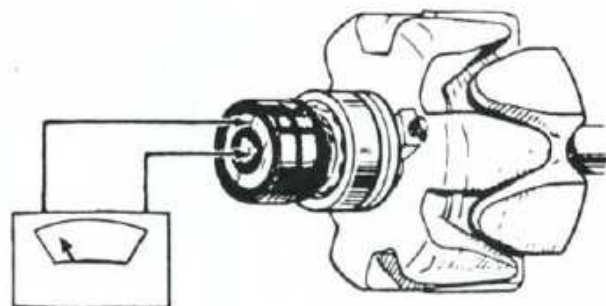
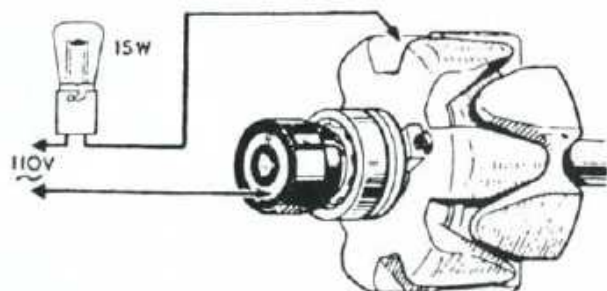

Fig. 65—Use an ohmmeter between slip ring connectors to check continuity of rotor windings on Model A115-45 alternator.
Fig. 66—To check insulation of rotor windings, connect a 15 watt light bulb in a 110 volt circuit connected to outer slip ring and any rotor pole.
**80. TESTING.** To test the rotor windings, connect an ohmmeter between slip ring connectors as shown in Fig. 65. Ohmmeter should read 3.2 ohms. If not, renew rotor. To check insulation of rotor windings, connect a 15 watt test light in a 110 volt circuit connected to outer slip ring and any rotor pole as shown in Fig. 66. If light comes on, renew rotor.